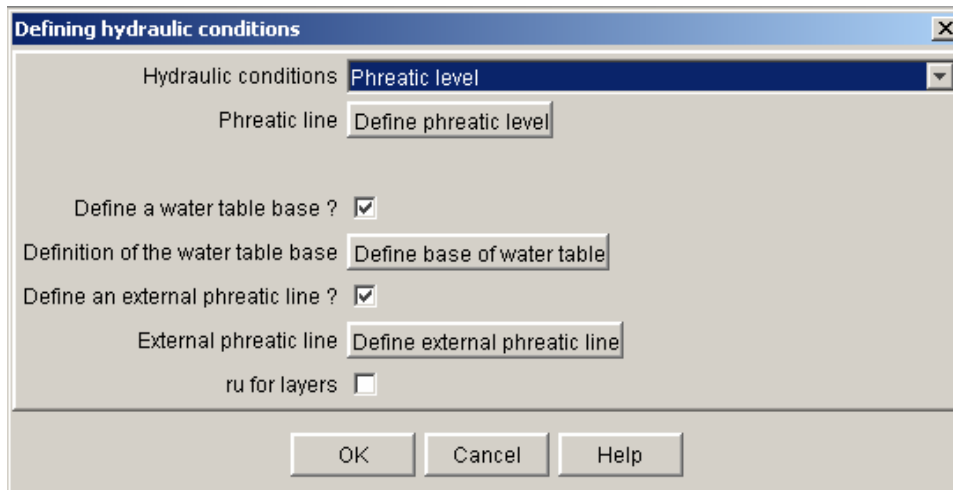

Figure 79: activation of a water table base and an external phreatic line
- It is possible to define a water table base, by activating the corresponding checkbox (Figure 79).
If the groundwater level is at least partially "out of the slope", it is compulsory to activate the option "Define an external phreatic line" (Figure 79).